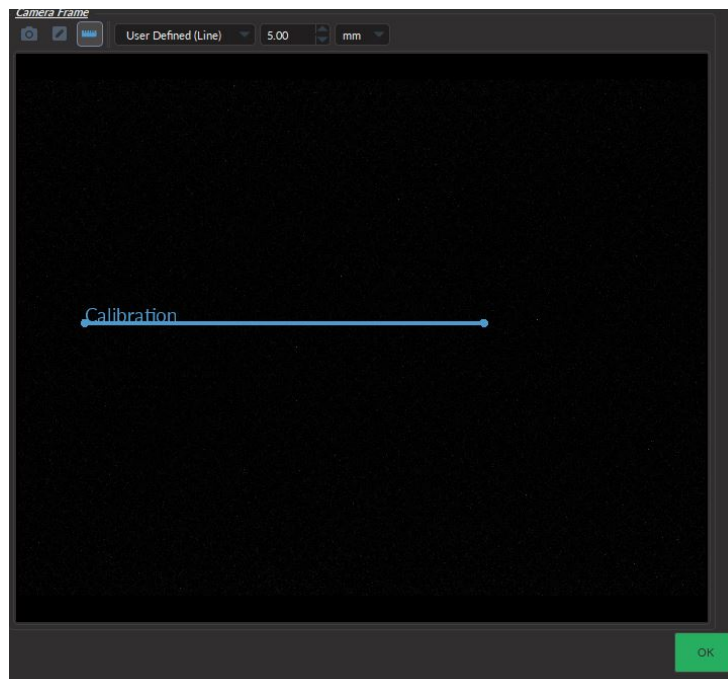

Figure 6.27: Camera Frame - Calibration
- c) The **Calibration Factor** (Fig. 6.27) is used to convert the ratio between the value of 1 pixel and the unit of choice (mm, cm, or in). If the image has yet to be calibrated, it will be 0 mm by default. The image calibration can only be done once the **Live/Record** mode is started and stopped.
- d) The drop-down list (Fig. 6.27) offers three options to use as a reference when calculating **Calibration Factor**.
- e) The **Size** text-box (Fig. 6.27) specifies the real dimensions of the reference and its unit (mm, cm, or inches). Select the **OK** button to recalculate the Calibration Factor using the new **Size**.